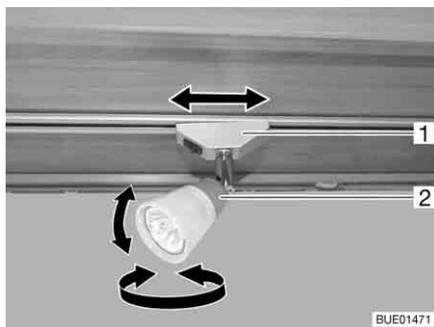

Fig. 51 Spotlight
Rotating: ■ Grasp the housing (Fig. 51,2) and turn it.
- Grip holder (Fig. 51,1) and turn by approx. 45°.
- Grip holder (Fig. 51,1) and turn by approx. 90°.